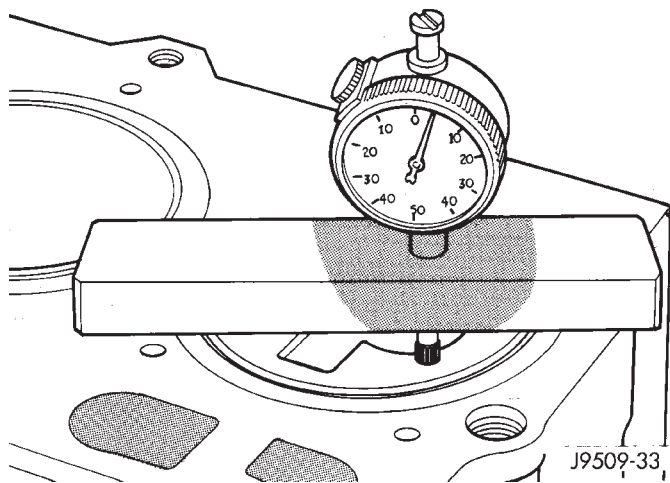

Fig. 65 Measuring Piston Protrusion
(1) Use special tool VM.1010 with dial indicator special tool VM.1013 (Fig. 65).